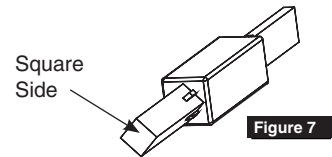

Figure 7
**USE SQUARE SIDE OF DOOR MARKER SPINDLE. (FIGURE 7)**